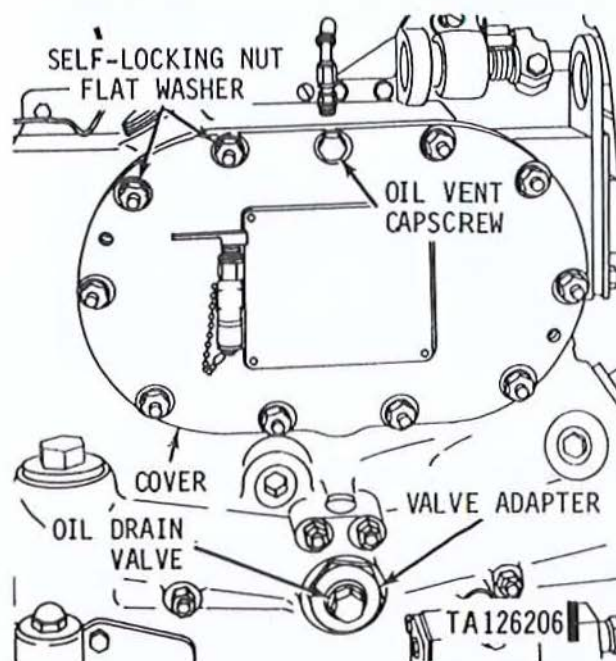
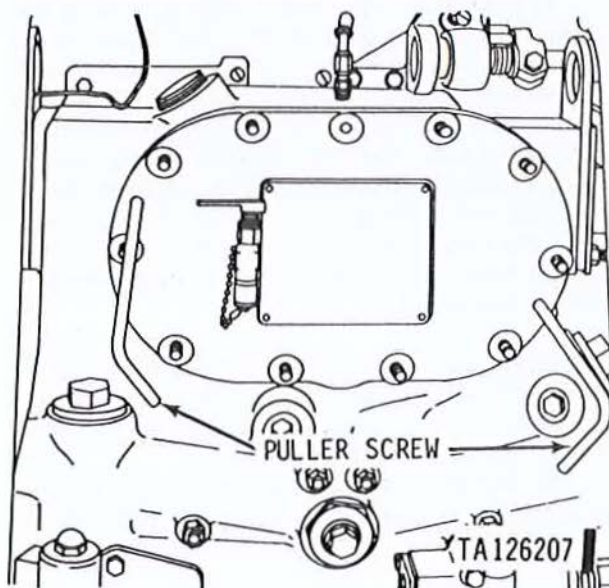

Figure 2-94. Draining oil filter housing and oil coolers.
Figure 2-95. Removing oil filter cover using two puller screws.
(2) Remove oil vent capscrew and seal washer (fig. 2-94). Remove and discard seal washer. Loosen oil drain valve six complete turns and allow oil to drain at the oil pan drain plug opening. Do not loosen oil drain valve adapter.
(3) Remove ten self-locking nuts and flat washers and remove cover.
(4) If necessary fabricate two 3/8-24 puller screws and install as shown in figure 2-95, and remove cover.
using new cover gasket. Install cover (fig. 2-94) and secure with ten self-locking nuts and flat washers.
Failure to tighten oil drain valve (fig. 2-94) until bolt bottoms will result in loss of oil pressure.